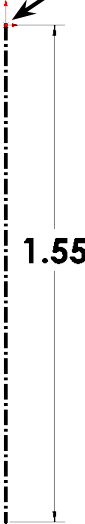

Fig. 2
Step 4. Sketch a vertical centerline down from the Origin , Fig. 2.
Step 5. Click **Smart Dimension**  (S) on the Sketch toolbar.
Step 6. Dimension **1.55**, Fig. 2.